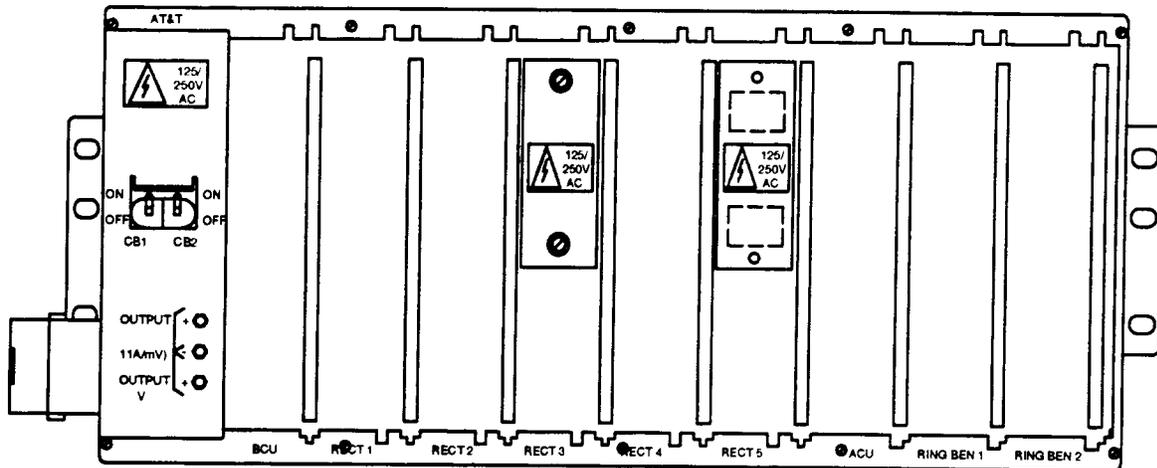

Figure 2 — J1C182BD Power Shelf
3. Insert one **336A RECTIFIER** into first vacant **RECT** slot (counting left to right) in power shelf (Figure 2).